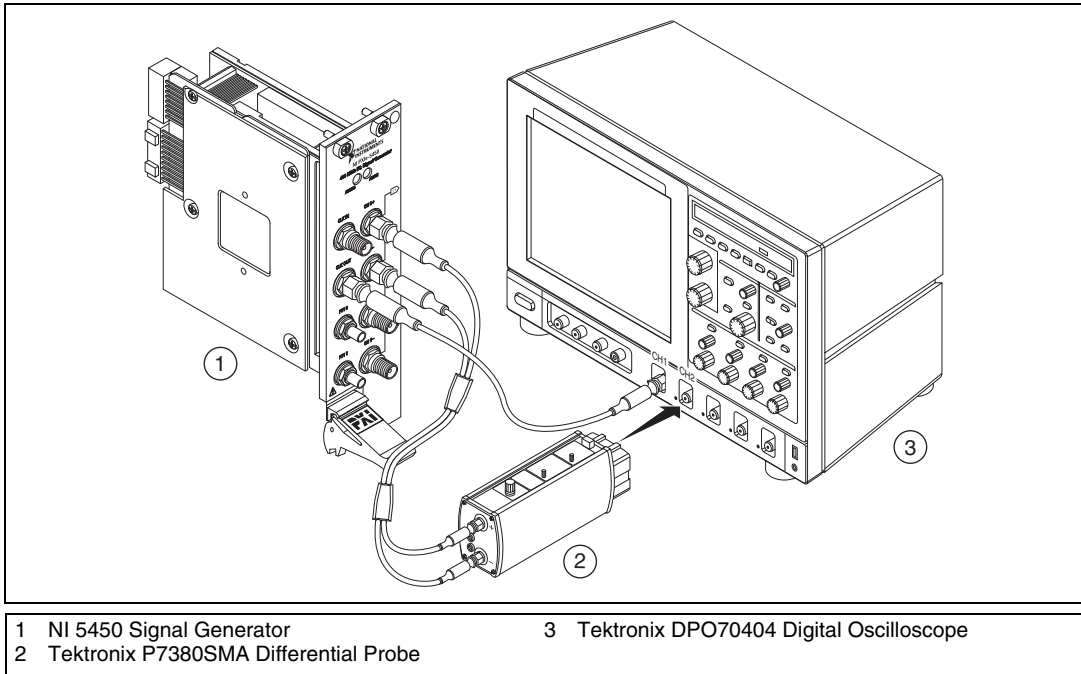

Figure 6. NI 5450 Connection to an Oscilloscope Using a Differential Acquisition Probe (CH 0)
1. Connect the devices as shown in Figure 6.